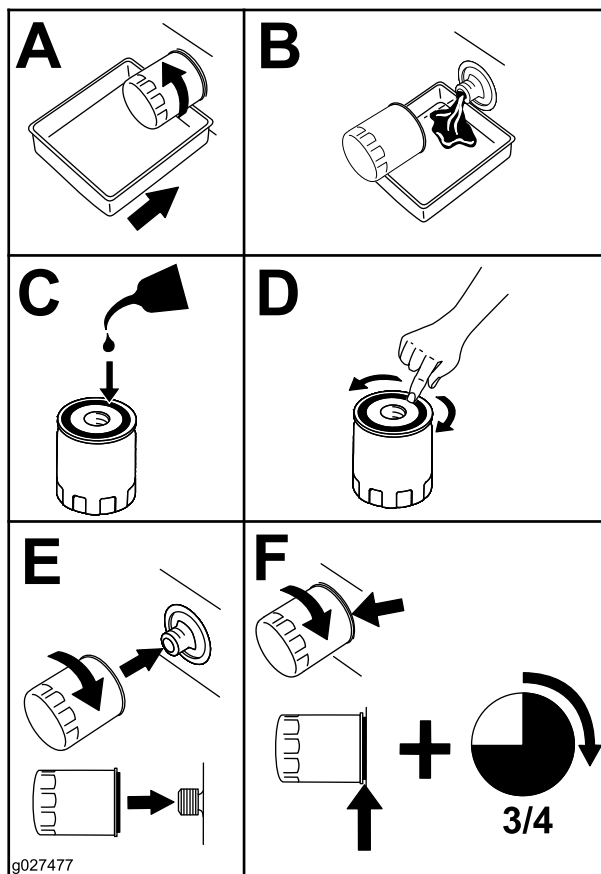

Figure 39
5. Change the engine-oil filter as shown in Figure 39.